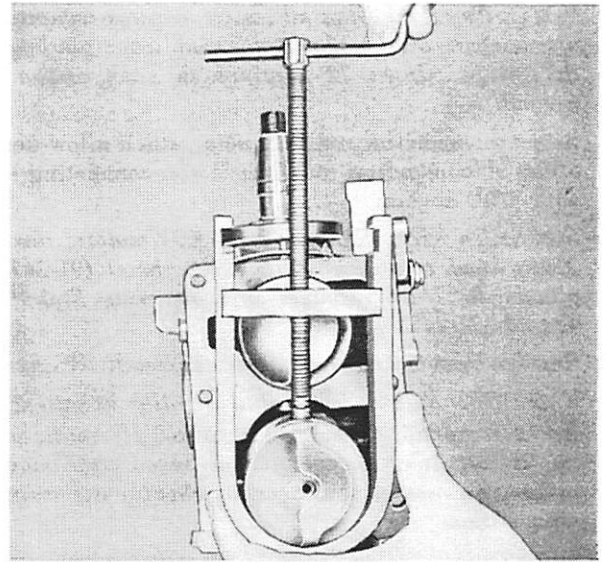

Figure 3. Removing (and Installing) Piston Pin
6. Press piston pin out of piston with Piston Pin Tool (91-24263), placing round end of tool over piston and centering opening over piston pin. (Figure 3)
8. Continue to turn handle of screw until piston pin emerges on opposite side of piston thru tool opening. (Figure 3)